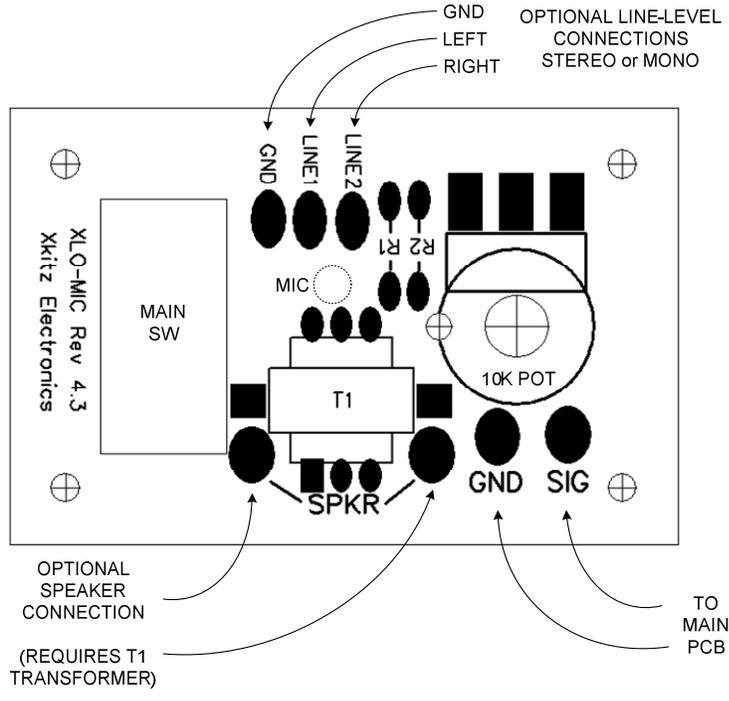

Figure 2. Front Panel Diagram (shows optional line-level and speaker connections)
This board is designed to be used as a decorative front panel that you can mount on your light organ enclosure. It contains the condenser microphone, the primary sensitivity adjustment pot, and the main AC on/off switch. Refer to Figure 2 below for component orientation.
- For line-in: install the two 33K resistors in R1 and R2. See Figure 2 for wiring of the line input(s). Connect just one for mono, or both for stereo left and right.
- For speaker input: install the 100K resistor in R1, leave R2 empty. Solder your audio transformer in position T1 (not included in the kit by default, contact Xkitz for info on the transformer) Transformer primary should connect to the square pad pin 1. See Figure 2 for wiring of the speakers inputs.